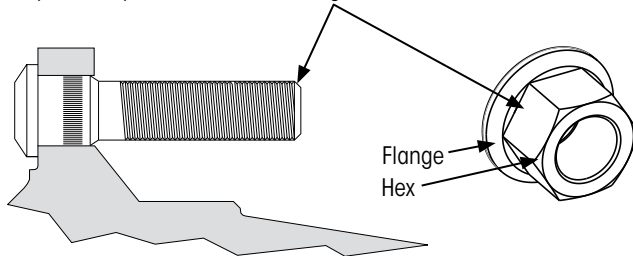

Figure 48: Lubricating stud and two-piece flange nut
- C. **Apply** two drops at the point between the flange and hex of the nut (Figure 48).